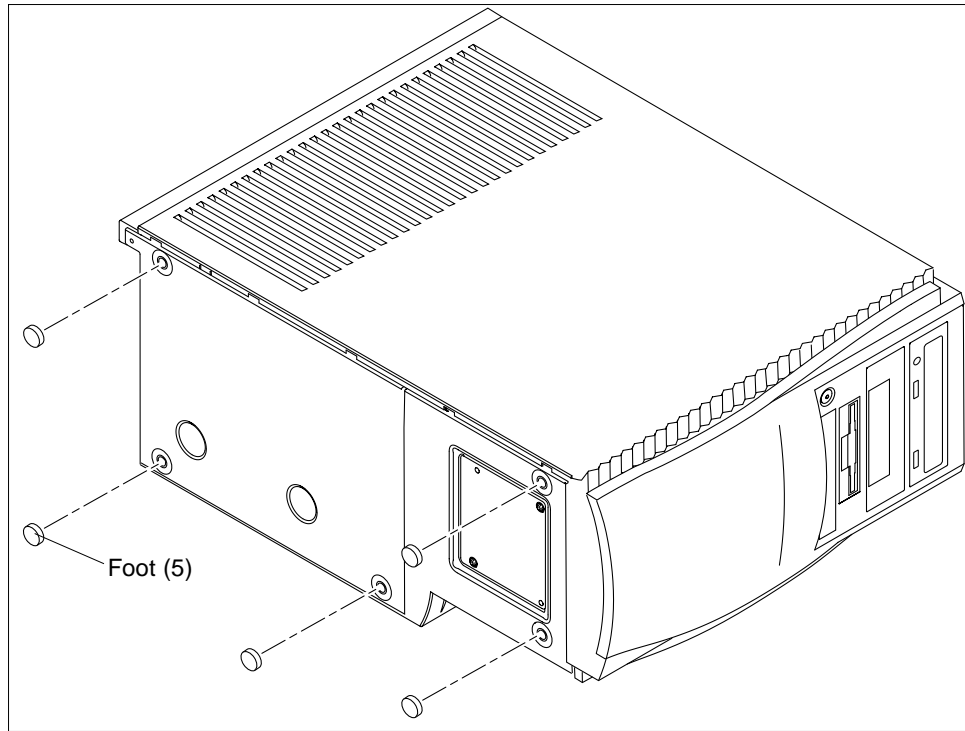

FIGURE 7-14 Removing and Replacing the Chassis Foot
Remove a chassis foot as follows (FIGURE 7-14):
- Remove a chassis foot by using a flat-tipped tool to pry the foot from the chassis (FIGURE 7-14).
Replace a chassis foot as follows (FIGURE 7-14):